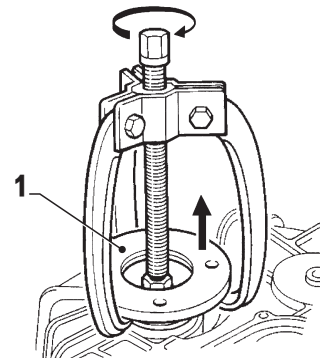

FIG. 4-2
Place extractor on the transmission and pull output flange (item 1, Fig. 4-2) off.